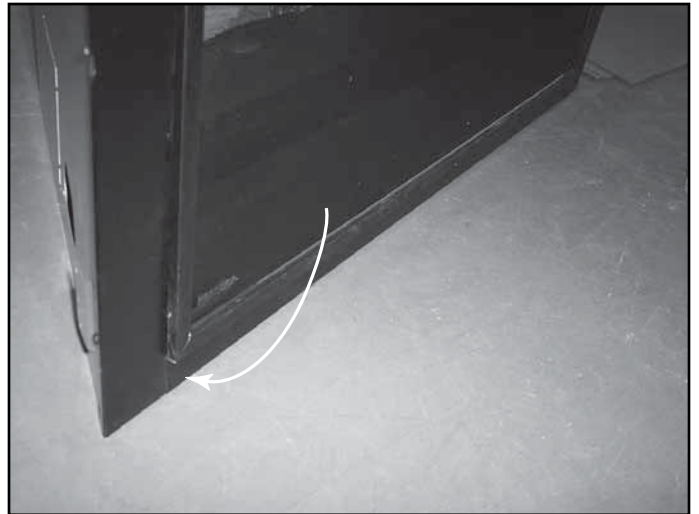

Figure 14.13 Rotate the Screen Down
- Rotate the screen in at the bottom until it touches the magnetic touch latches. See Figure 14.13.